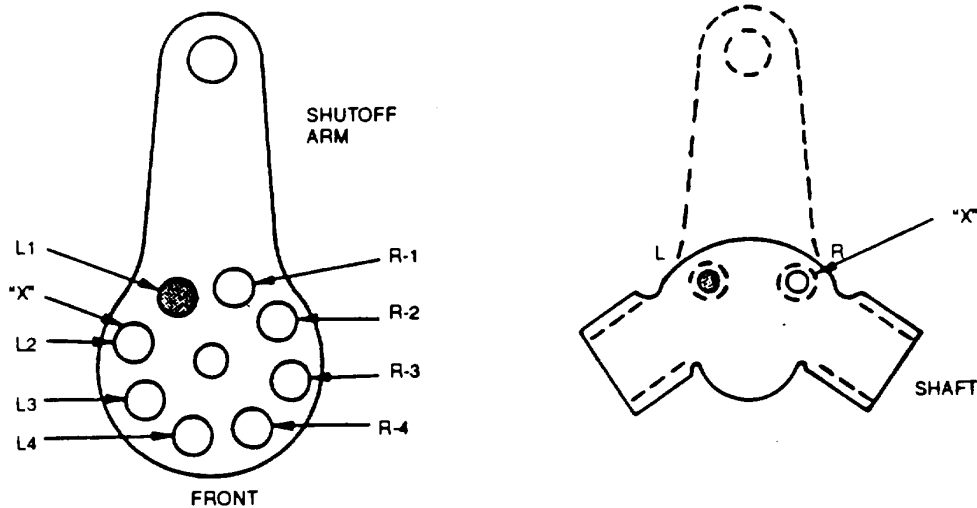

FIGURE 3-65. Disassembly of Shut-off Lever
m. Remove throttle lever (19), spacer (20), two rubber seal rings (21), and two washers (22).
n. If damaged, disassemble shut-off lever shaft assembly as follows, refer to FIGURE 3-65.